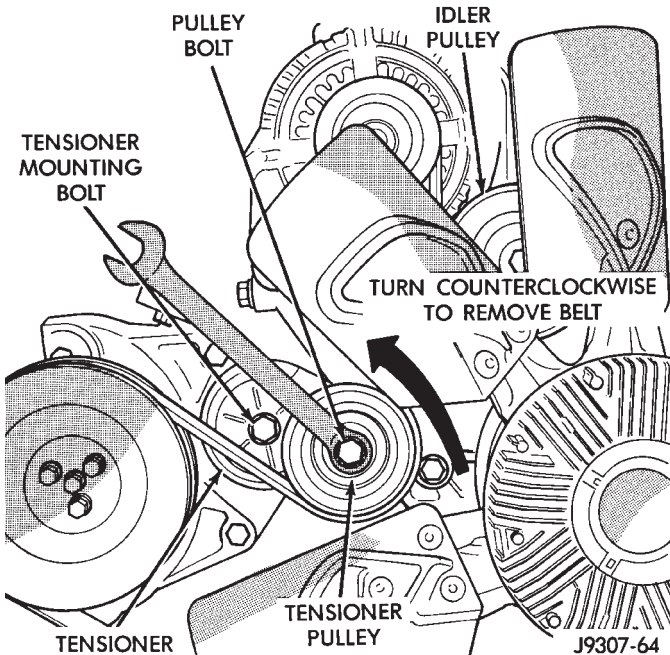

Fig. 61 Belt Tensioner—5.9L HDC-Gas Engine
(10) **5.9L HDC-Gas:** The automatic belt tensioner/pulley assembly must be removed to gain access to one of the A/C compressor/generator bracket mounting bolts. Remove the tensioner mounting bolt (Fig. 61) and remove tensioner.